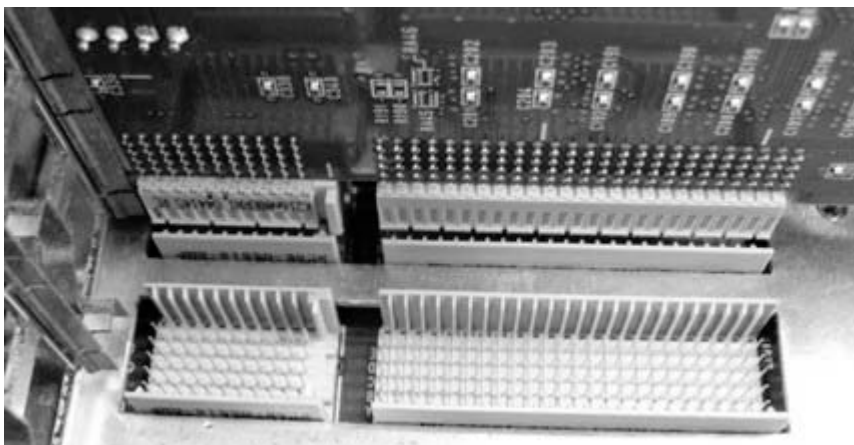

Figure 5-4 Alignment of the Unit
Next, slowly slide the unit along the circuit board guide. As shown in Figure 5-4, check that the circuit board connector of the unit and the circuit board connector of the LV 5800(A) are aligned before inserting the unit into the connector.